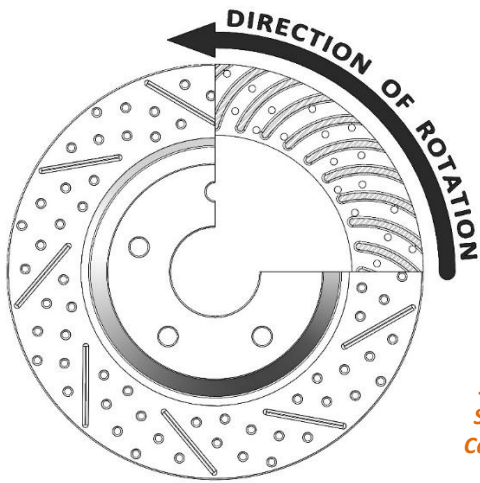

Figure 5a – Rotor Placement (LH Side Shown)
7. Install the correct LH or RH rotor onto the hub at this time, using 3 lug nuts to hold the rotor tight to the hub for the future shimming process. **NOTE: The rotors are directionally vented, please refer to Figure 5a below for proper rotor placement.** Next, remove the brake pads and place the brake caliper onto the radial mount bosses of the Secondary Caliper Mounting bracket, securing it with the supplied M12-1.75 x 45mm Socket Head Cap Screws. Make sure the bleeder screw is pointed upwards. Only snug the bolts for now because of future caliper shimming process. Refer to Figure 5b for reference.